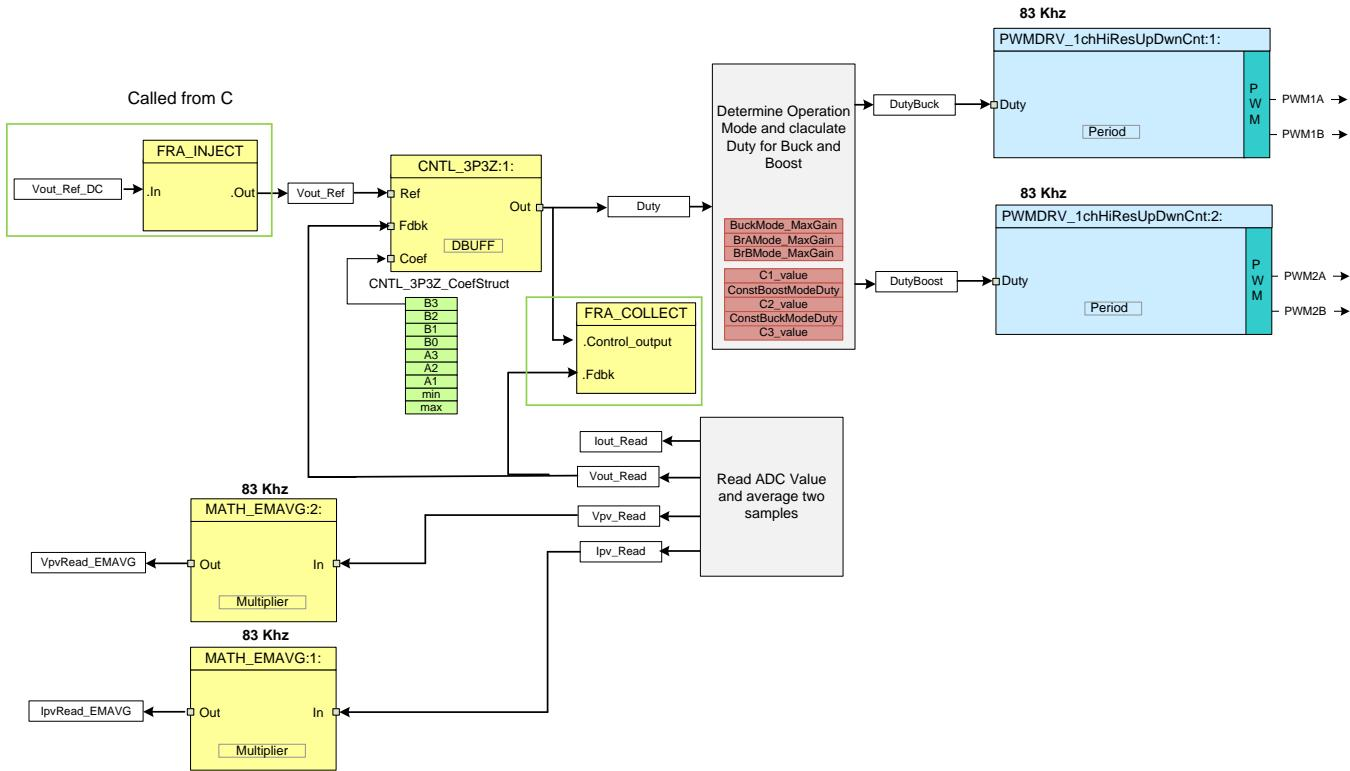

Figure 7. DC-DC Output Voltage Control
3. Voltage control in the reverse direction (Figure 7)
The switching frequency of the DC-DC stage is fairly high at 250 KHz. A section of the control ISR for the DC-DC is implemented in an optimized assembly function, which is called the C ISR. In the project, the DC-DC ISR (DPL_ISR_wFRA()) is invoked every third switching cycle. Figure 7 gives the software diagram for the DC-DC stage using the optimized blocks from the digital power library and SFRA routine in C.
Notice the color coding for the software blocks in Figure 7. The blocks in dark blue represent the hardware modules on the C2000 controller. The blocks in blue are the software drivers for these modules. Blocks in yellow are the controller blocks for the control loop.
The following code snippet shows the I/O connections between the different blocks used from the digital power library to implement the DC-DC MPPT control software. This code can directly be related to the control diagram shown in Figure 7.